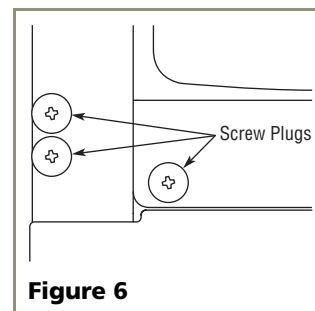

Figure 6
2. Remove plastic screw plugs (3 each, top and bottom) from new hinge location. Do not discard (see **Figure 6**).